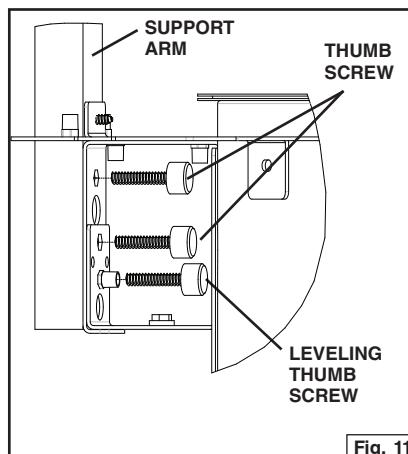

Fig. 11
3. Continue to attach arm to power unit with (2) M4 x 24mm thumb screws. Attach a third M4 x 24mm thumb screw to the threaded insert in the power unit flange. This screw will be used to level the power unit later . Fig. 11.